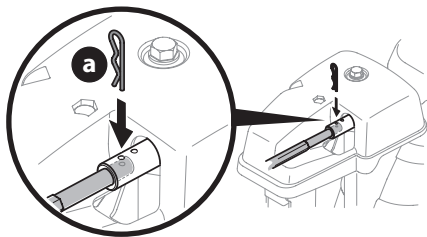

Figure 34
- Push chute control rod toward the control panel until hole in rod lines up with middle hole in chute control coupler and insert hairpin clip (a) removed in Step 1 (Figure 34).